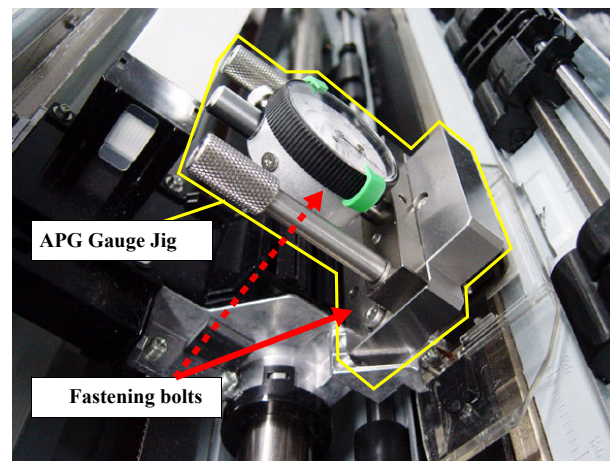

Figure 5-11. Mounting the APG Gauge Jig
2. Install the APG Gauge Jig on the carriage unit. See Figure 5-11.